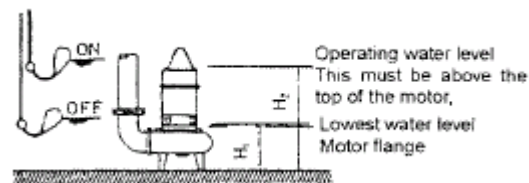

Fig.3
- 8) Since non-Automatic type pump (Model DL) has no Automatic operation device which is actuated by a float in the pump, care shall be given to the pump operating water level. If that type of pump is operated continuously for 10 minutes or longer period at near the operable minimum water level, the Auto-cut in the motor is actuated. Therefore, the Automatic operation device shall be installed as illustrated in Fig. 3, and the stop-operation water level shall be set at a position higher than the operable minimum water level to avoid dry operation. The operation-start water level shall be set to a position higher than the level of fully immersing the pump.